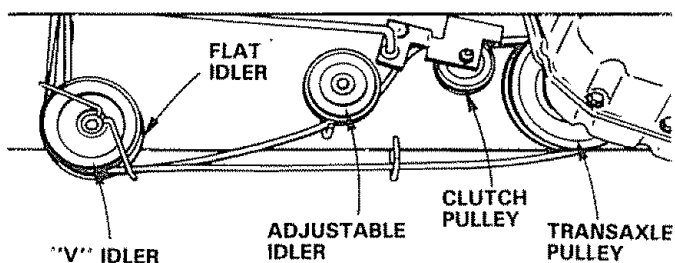

FIGURE 34
- Roll belt off "V" idler, flat idler and adjustable idler pulleys (Fig. 34).